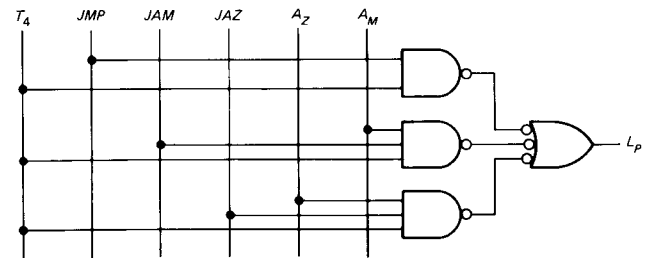

Fig. 3-34
- 3-25. In Fig. 3-34 the inputs are  $T_4$ ,  $JMP$ ,  $JAM$ ,  $JAZ$ ,  $A_M$ , and  $A_Z$ ; the output is  $L_p$ . What is the output for each of these input conditions?